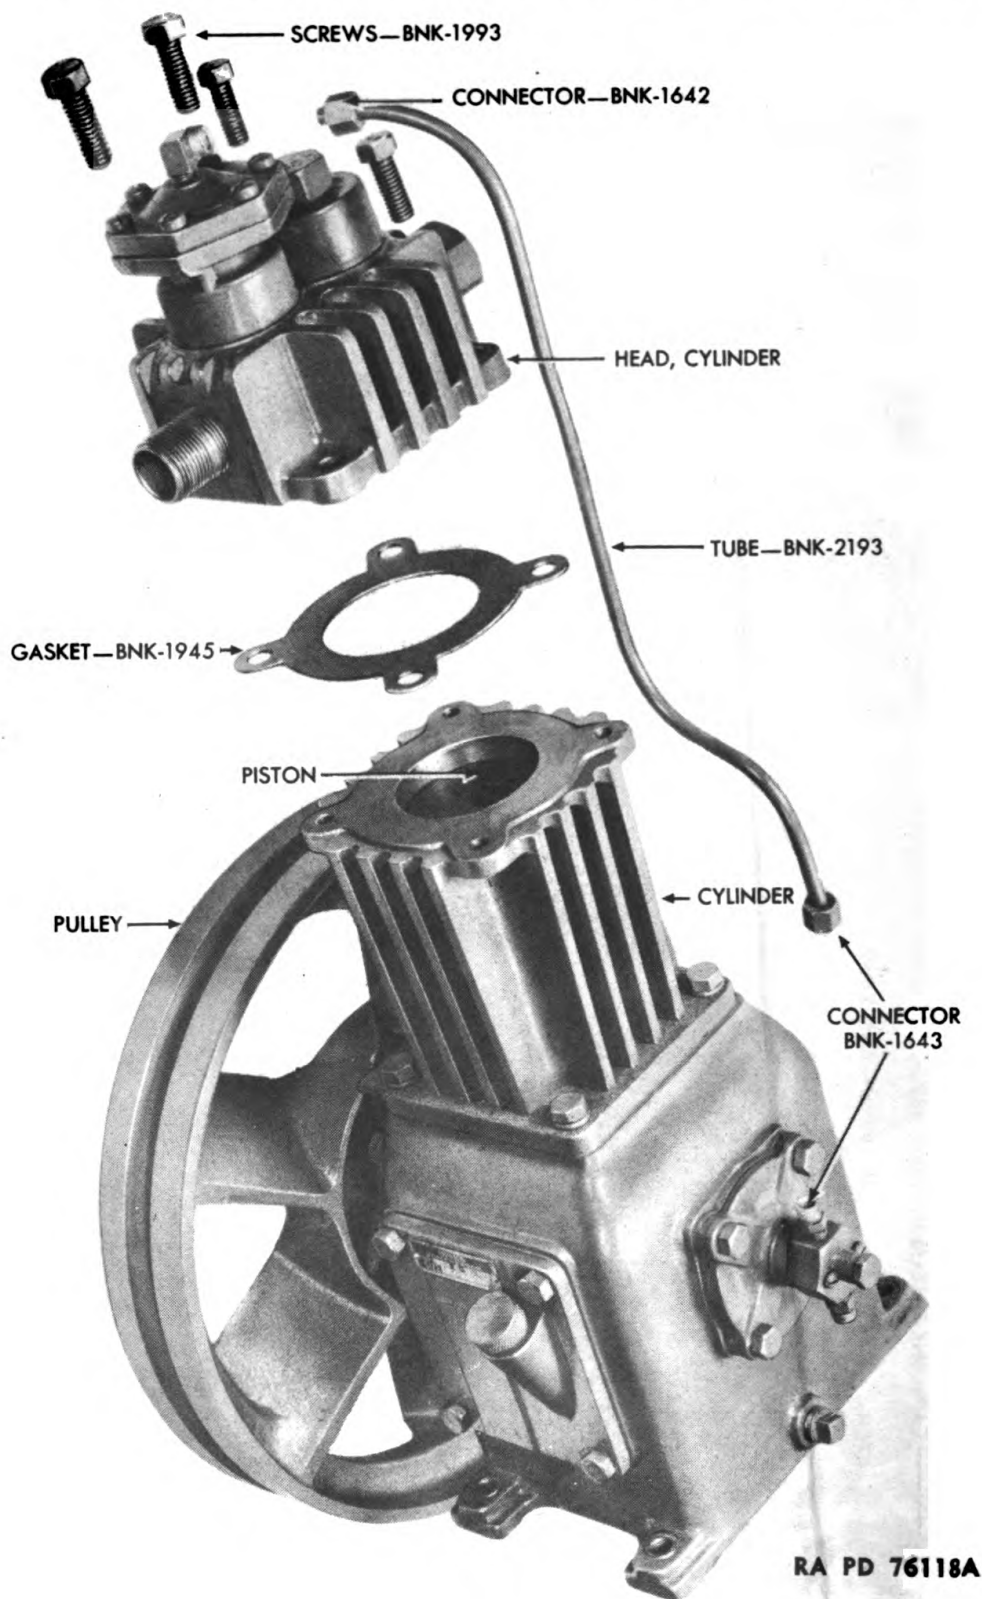

Figure 125 — Air Compressor — Cylinder Head and Tube Removed
(4) Disconnect the air tube (fig. 125) and remove the cylinder head cap screws to separate the cylinder head and gasket from the cylinder.